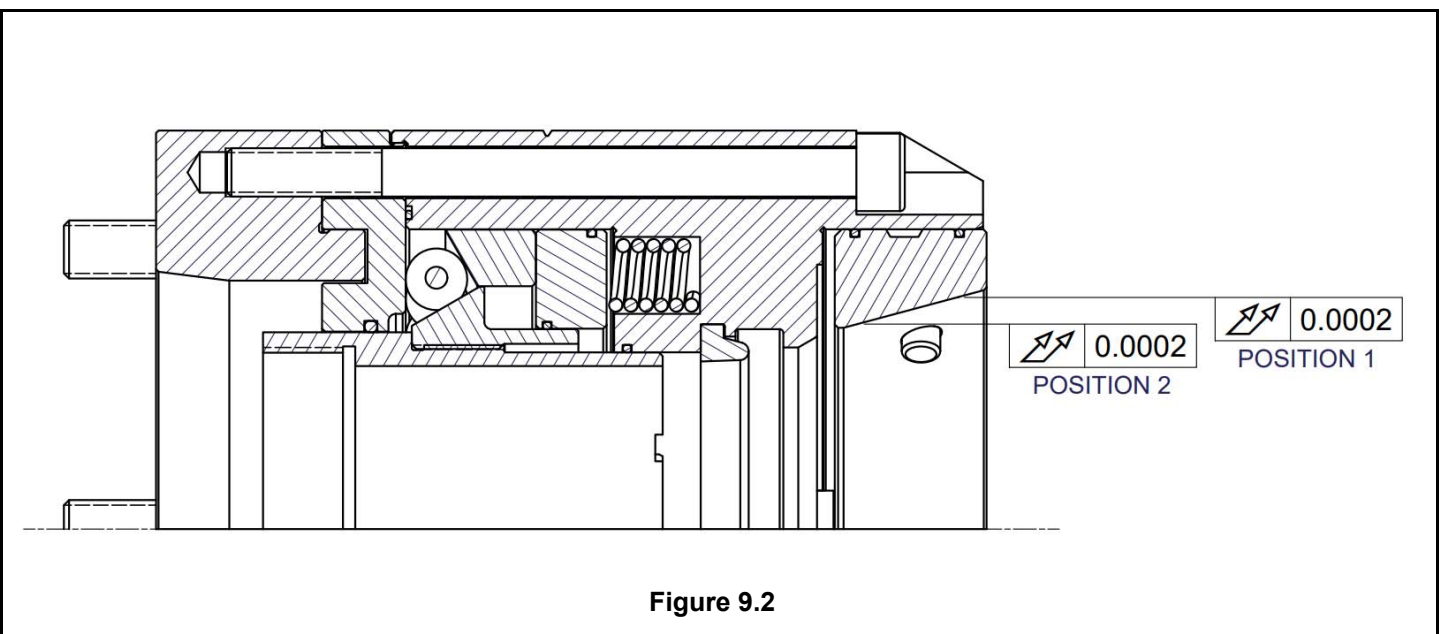
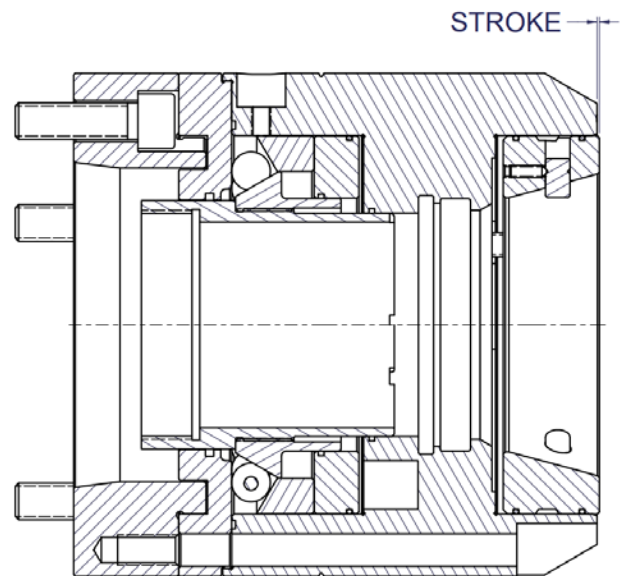

Figure 9.2
Figure 9.3
3. Make certain that the mounting surfaces of the chuck body and adapter plate are clean and free of nicks or burrs that could prevent the proper seating of the chuck body. Also make sure the (4) radial adjusting screws (Item 2.13) are not protruding into the locating diameter of the chuck body.
7. Indicate the ID runout of the collet taper as shown in position #1 in Figure 9.2. Make adjustments to the (4) radial adjusting screws so that the runout of the collet taper is within .0002" (0.005mm).
8. Before tightening the mounting bolts, measure the runout of the collet taper on position #2 in Figure 9.2. If the chuck body is properly seated on the adapter plate, the runout measured on position #2 should be the same as position #1. If the runout measured in position #2 exceeds the runout of position #1 by more than .0001" (0.0025mm), remove the chuck body from the adapter plate and repeat this mounting procedure.
9. After the runout of the collet taper has been adjusted, tighten the mounting bolts to the torque specifications given in Section 4. Also make sure to tighten all (4) radial adjusting screws.
10. Actuate the draw tube to verify that the chuck is functioning correctly by measuring the stroke of tapered sleeve as shown in Figure 9.3.